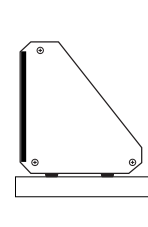

FIGURE 4: High on a shelf
- **High on a shelf**—The station panel is installed in the vertical face and the blank four-gang panel is installed in the angled face (Figure 4 below).